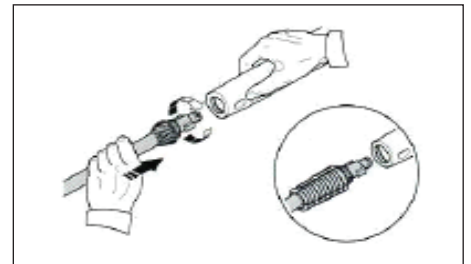

Figure 12 - Attach lance to gun.
3. Attach lance to gun (see Figure 12).
8. Attach lance to gun (see Figure 12).
6. Attach lance to gun (see Figure 12).